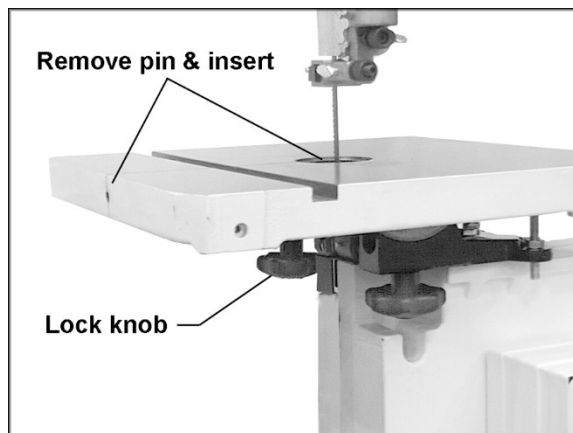

Figure 19
13. To mount the table, remove pin and insert from the table (Figure 19).
14. Orient the table so the saw blade will pass through the slot in the table and into the center opening. Continue holding up the table and rotate the table so the two screws that are hanging vertically from below the table will slide into the holes on the trunnion support bracket. Lower the table. The screws should now protrude below the trunnion support bracket - attach lock knobs to the ends of these screws. (Figure 19).